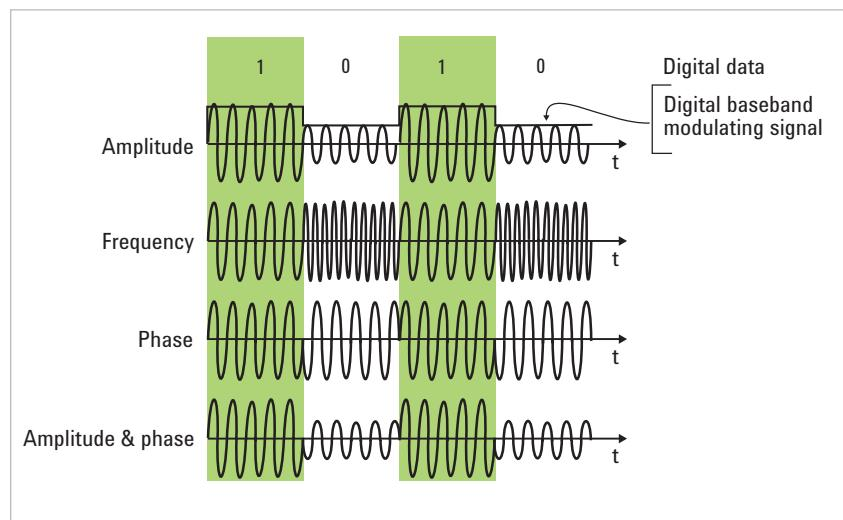
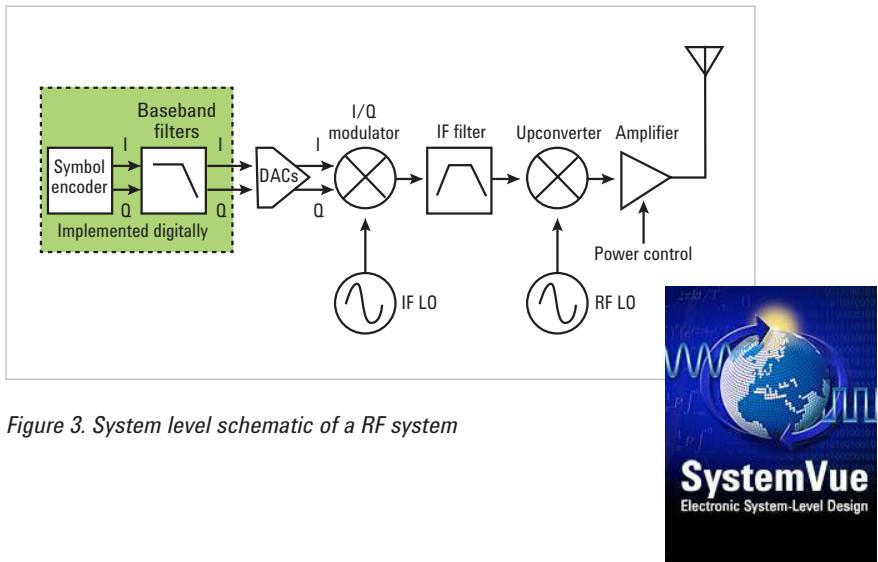

Figure 2a. RF modulation
Figure 2b. The Keysight N9310A RF Signal Generator is capable of generating modulating RF signals
**Why?** Communications systems use modulation to superimpose or "piggyback" low-frequency voice or data signals onto an RF wave (high-frequency carrier) that can be transmitted long distances (Figure 2a). An example of equipment that may be used for this step is the Keysight N9310A RF Signal Generator, shown in Figure 2b.